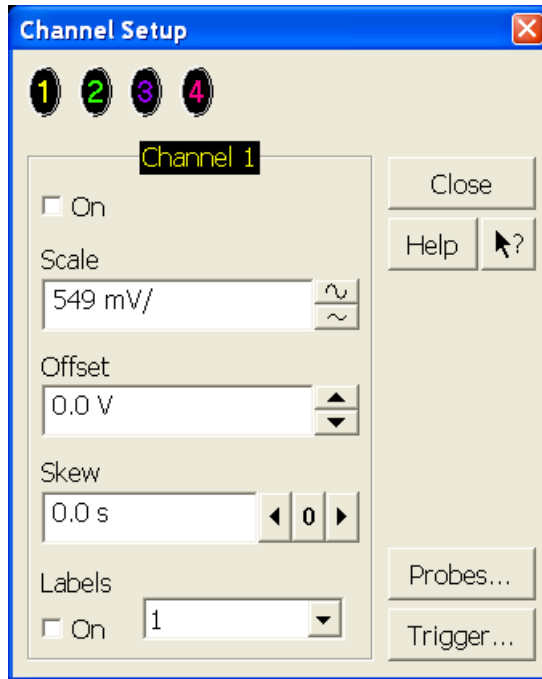

Figure 95 Channel Dialog Box
- 2 In the Channel Setup dialog box, select the Probes... button, as shown in Figure 95.